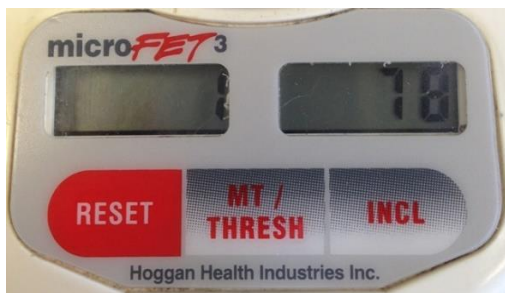

Figure 8. Inclinometer Test Saved Results Example
- The device will display the angle measurement in the right display, and test number in the left display, (see Figure 8). Test angle results are displayed as whole angle or number.